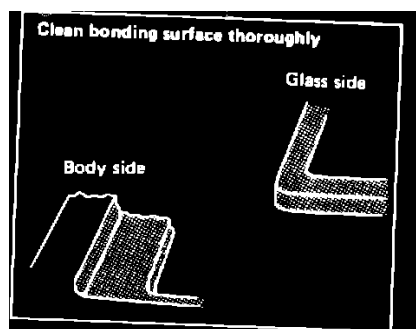

FIGURE 2
4. Thoroughly clean the bonding surfaces (Figure 2). If necessary, trim excess sealant from around the rubber spacers. This will allow for a good fix when the new sealant is applied.